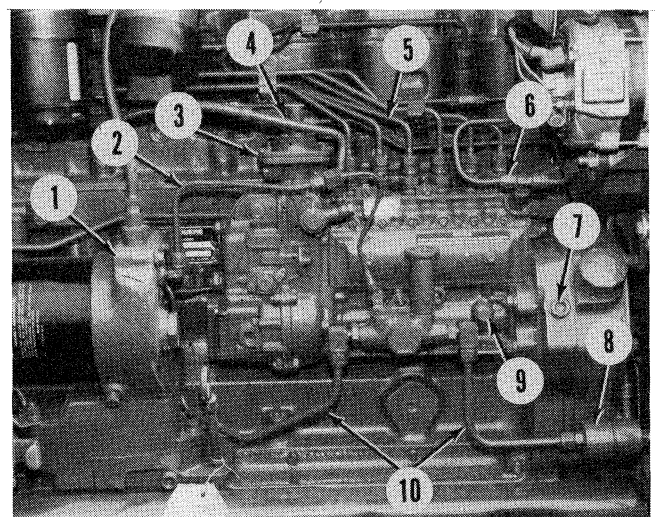

Fig. 77—View of injection pump used on all tractors except Model 4050.
Disconnect throttle linkage and fuel shut-off cable. Disconnect aneroid line (3—Fig. 77), oil supply line (2), fuel inlet line (4), transfer pump fuel lines (10), fuel leak-off line (6) and injection lines (5). Drain oil from oil filter housing (1), then remove filter and
When reinstalling injection pump, make certain number 1 piston is at TDC on compression stroke. Note that JDE-81-4 timing pin can engage the flywheel timing hole with either number 1 or 6 piston at TDC on compression stroke. Be sure timing marks on pump drive hub and pointer (Fig. 78) are aligned. Be careful not to damage "O" ring on pump bearing plate. Tighten pump mounting nuts and pump drive gear cap screws to 35 ft.-lbs. (47 N·m). Recheck pump timing as outlined in the following paragraph and adjust as necessary. Remove oil level plug (9—Fig. 77) from side of pump housing and pour about 3/4 pint (0.5 L) of clean engine oil into pump to provide initial lubrication. Bleed air from system as outlined in paragraph 64.
71. STATIC TIMING. To check injection pump static timing, remove timing hole plug (7—Fig. 77). Rotate crankshaft in normal direction until number 1 piston is at TDC on compression stroke and JDE-81-4 timing pin (or similar tool) can be inserted through flywheel housing into timing hole in flywheel. At this position, timing marks on pump timing pointer (Fig. 78) and drive hub should be aligned if pump timing is correct.